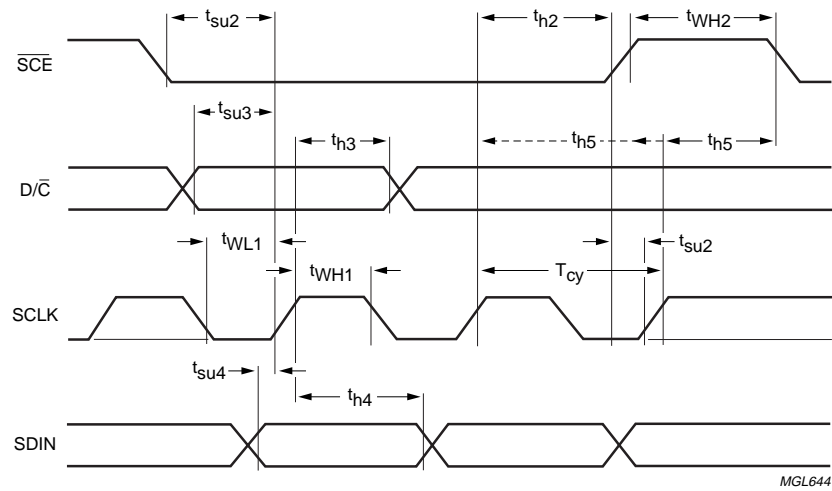

Fig.15 Serial interface timing.
3. t_{h5} is the time from the previous SCLK positive edge (irrespective of the state of SCE) to the negative edge of SCE (see Fig.15).